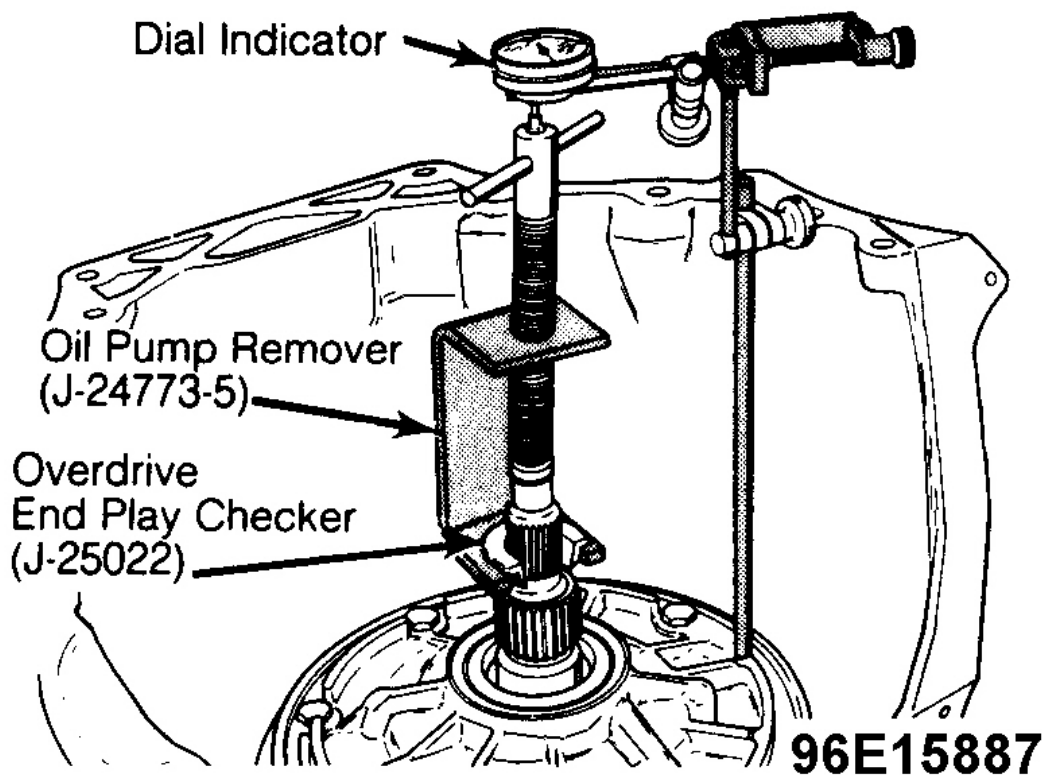

Fig. 10: Checking Overdrive Unit End Play
2. Remove one pump-to-case bolt and washer and install an 11" long bolt into pump bolt hole. Attach Overdrive End Play Checker (J-25022) and Oil Pump Remover (J-24773-5) to turbine shaft. See **Fig. 10** .
1. If necessary, pry oil pump seal from pump. Remove pump-to-case bolts and washers. Install Oil Pump Remover (J-24773-5) on turbine shaft. See **Fig. 10** . Remove oil pump assembly from case. Remove pump-to-case gasket and tanged oil deflector plate located under pump.